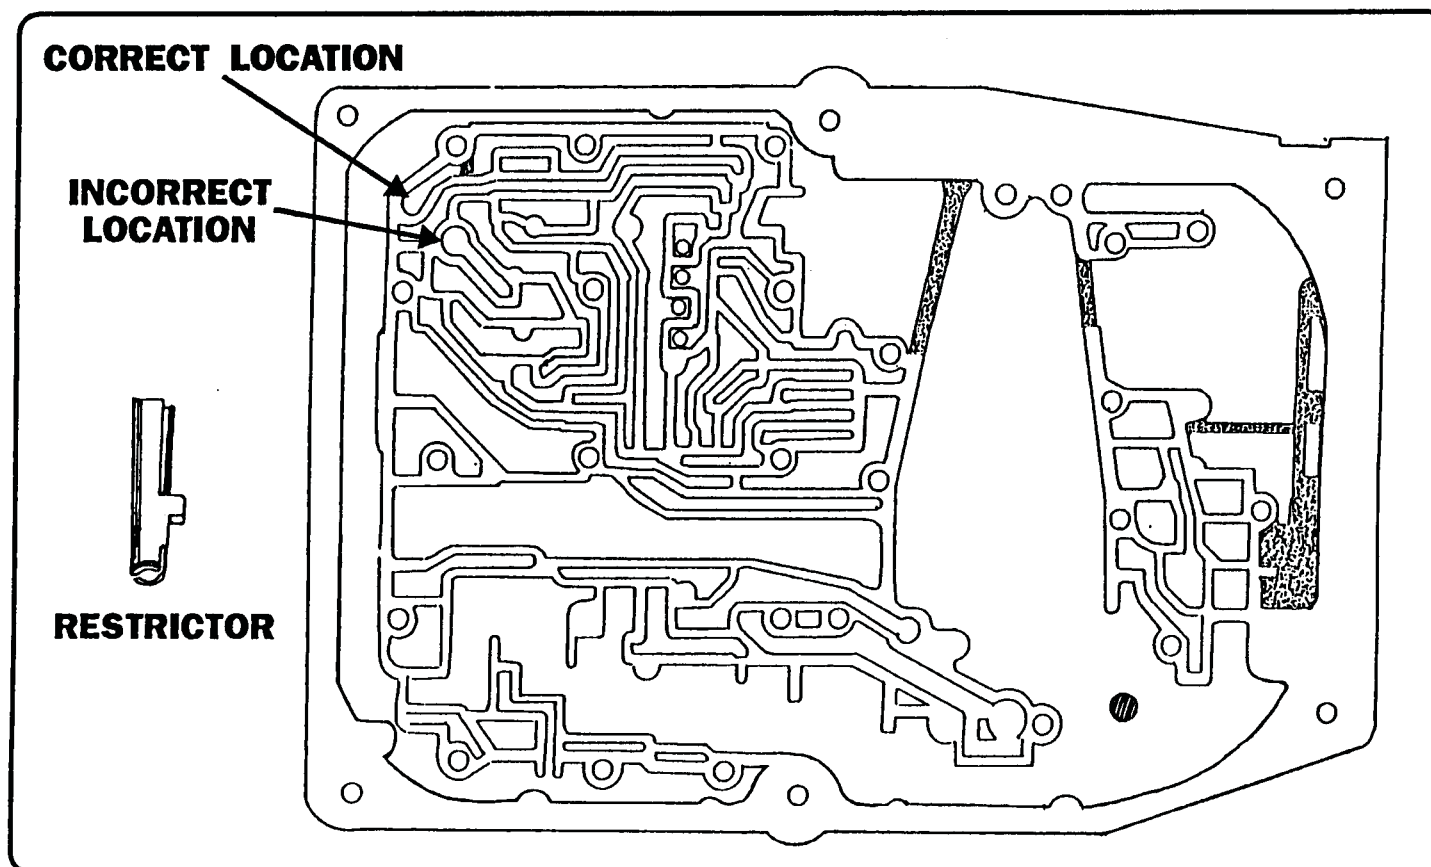

Figure 1
The TV valve line-up is different in the Mercedes models 420 SEL, 560 SEL and SL models. This change was made the the 1986 model year. Figure 1 illustrates the valve line-up.
CORRECTION:Make a 30 degree chamfer around the out diameter of the top (outside land) on the piston. The servo cover side, as shown in Figure 1.
CORRECTION: Install the Mercedes tapered oil restrictor Part no. 123 277 0319. into the transmission case as shown in Figure 1. Note that the restrictor goes in tapered end first and fits snug in the case.
- c. The gasket on the large intermediate plate shows severe swelling or a green slimy coating (upper right arrow in Figure 1).
- d. The intermediate plate shows signs of corrosion under the gasket (lower left arrow in Figure 1).
(Figure 1)
We have illustrated the separator plate ID in Figure 1 for both the regular 722.3 valve body and the 722.4 which is the 190E plate. You will note that the "regular" six bolt pan plate has a large opening where as the 190E opening is split. The arrows point to the locations on the plate. The regular plate (722.3) has a late and early version. The early will NOT fit the late valve body but the late will fit the early. Note the difference. The late has a square hole instead of the two orifices in the early. This is the position of the valve body screen.
CORRECTION: *Replace ball valve, part #201 270 03 89, and install retaining washer (24), part number 000 463 008403 (Figure 1).*
CORRECTION: *Replace steel disks K-1, bellville washer, and retaining ring (Figure 1).*